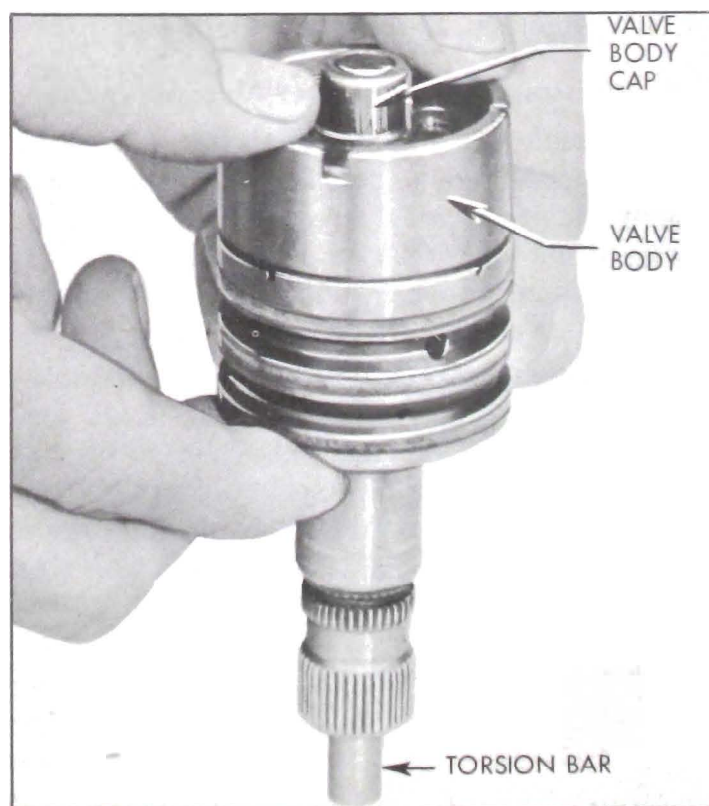

Figure 8-37—Removing Stub Shaft, Torsion Bar and Cap Assembly From Valve Body
4. Remove the stub shaft, torsion bar and cap assembly by holding the valve assembly with stub shaft downward as shown and rapping torsion bar lightly against work-bench to dislodge the cap from valve body to cap pin. See Figure 8-37. Complete the removal of the stub shaft torsion bar and cap assembly.